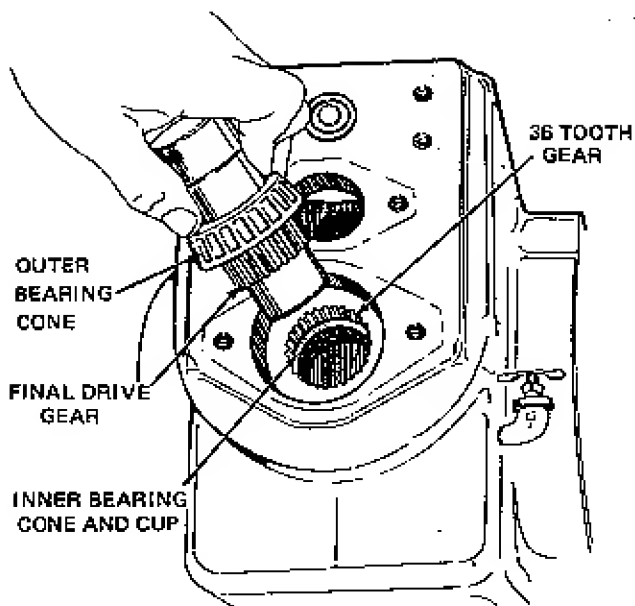

Figure 9. Final Drive Gear Installation
- d. Holding 36-tooth gear in place, insert final gear assembly through large hole on outer wall of transmission case (Figure 9), through gear, and into inner bearing cone.